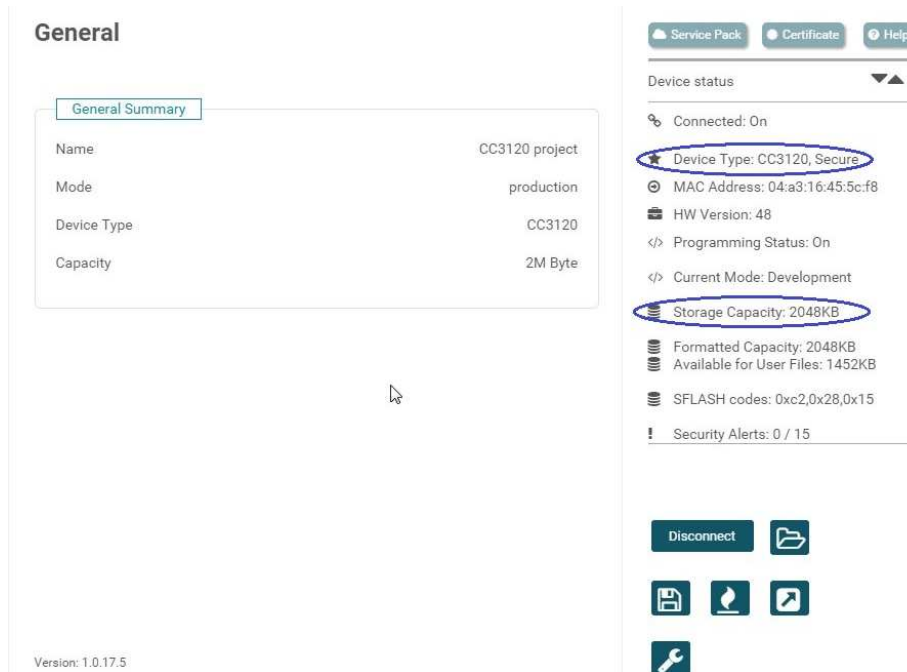

Figure 12. UniFlash Connect to CC3120
- Click the *Connect* button on the right side of the screen to connect to the board. If the connection is successful, the device information appears on the right side of the web page (see Figure 12).